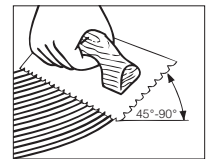

Figure 7
- Hold trowel at a minimum 45° angle (Figure 7) firmly against the subfloor to obtain a 40-60 ft.² (4-5.5 m²) per gallon spread rate. The trowel will leave ridges of adhesive and very little adhesive between the ridges. This will allow you to still see the chalk lines between the ridges and provide the recommended spread rate.